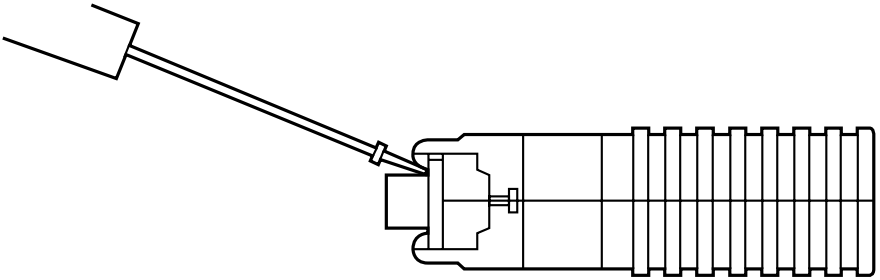

Figure 4-2. Opening the Unit.
1. Open the unit by gently inserting a screwdriver between the DB25 connector and the lip of the plastic case (see **Figure 4-2**). You don't have to worry about breaking the plastic, but be careful not to bend the D-sub connector.